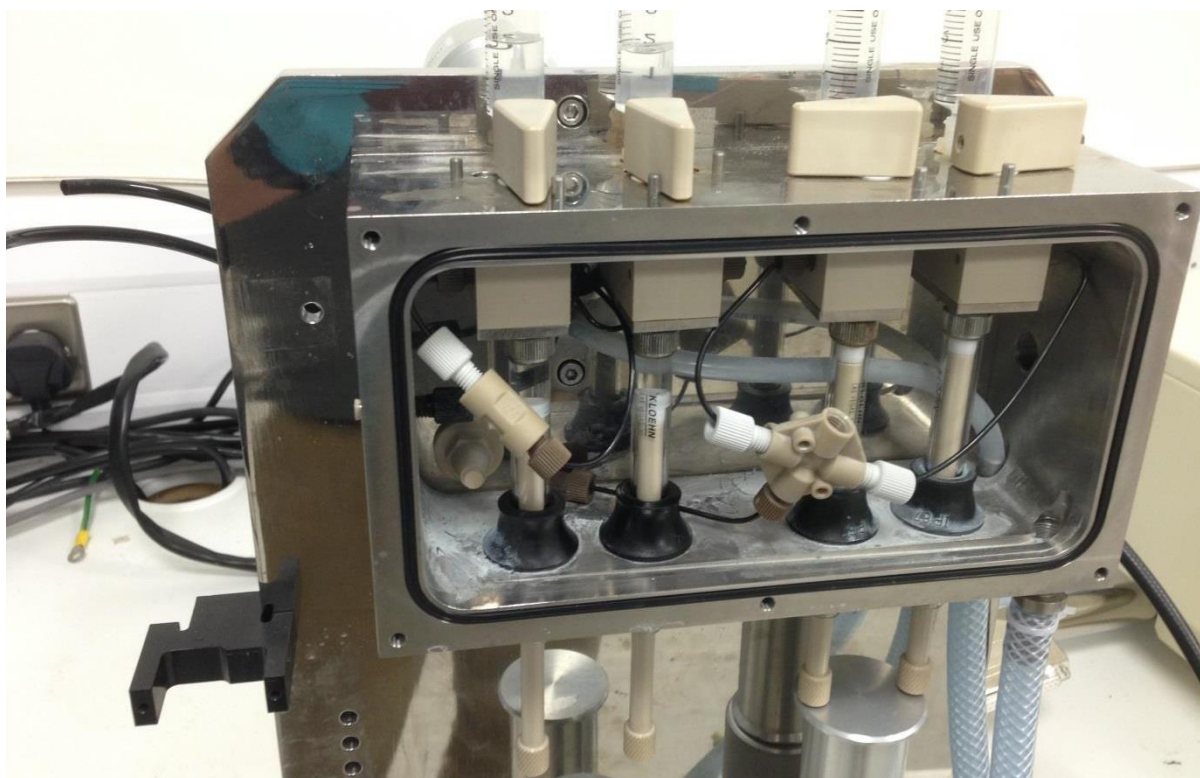

Figure 3.30 - KSHU unit with the water bath drained, and both stop valve actuator and stop syringe removed
1. Drain the water bath (Section 3.2), remove the stop syringe (Section 3.7) and remove the stop valve actuator assembly (Section 3.8). Your instrument should look similar to that in Figure 3.30.